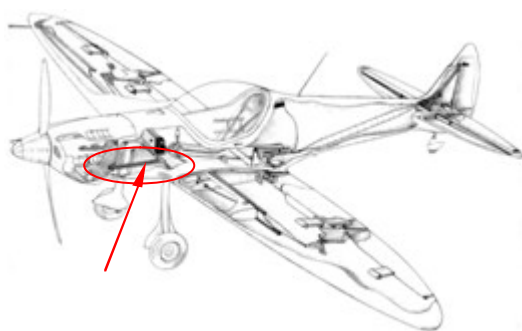

Fig. 3.4.9
6. Apply mold release wax to the landing-gear actuator and mask the actuator with adhesive tape as shown in figure 3.4.9. Slide aluminum adaptor plate no. 48000114 onto the landing-gear actuator. Fix the actuator to the spar tunnel with screw no. 50067504; tighten the screw only slightly. Align the actuator horizontally.